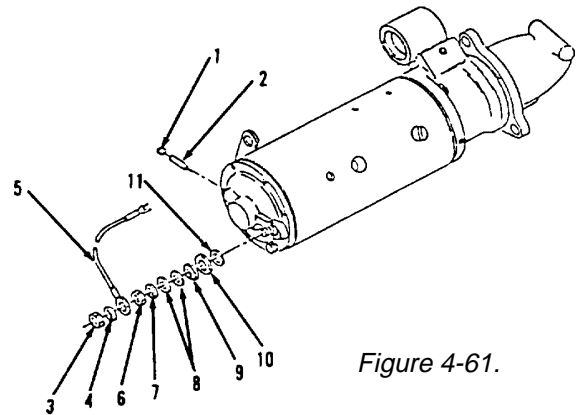

Figure 4-61.
29. Install washer (11), insulating washers (10 and 9), two washers (8), lockwasher (7) and nut (6, Figure 4-61).
30. Install wire assembly (5), lockwasher (4) and nut (3).
31. Dip wick (2) in engine oil SAE 20.
32. Install wick (2) and plug (1).